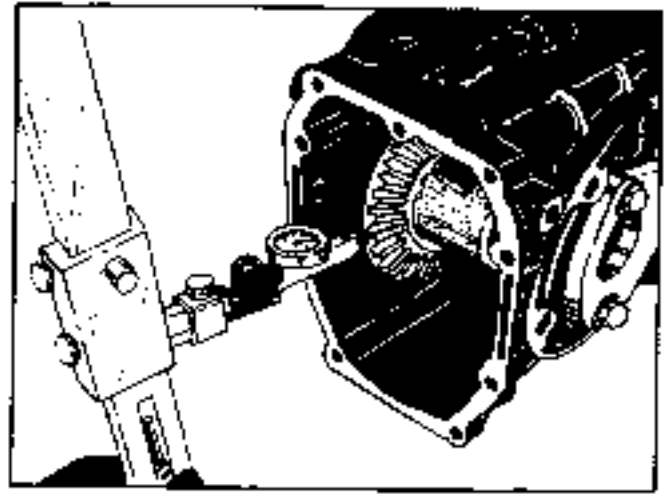

FIGURE 5.
- b. Ring gear to pinion backlash .003" to .008" (Figure 5)